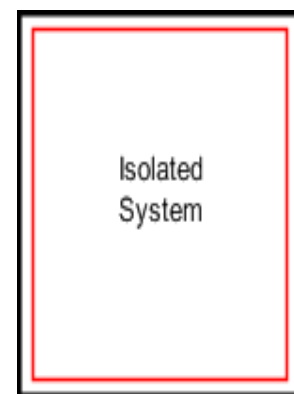

Fig.6
3. **Isolated system:** An isolated system is that system which does not transfer energy as well as mass with the surrounding. It is purely theoretical system Ex. Thermass. (Fig. 6)